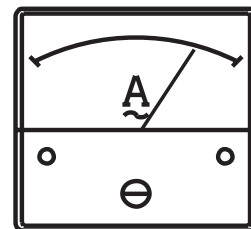

Figure 36. Ammeter (Load)
11. Observe the generator's ammeter (Figure 36) and verify it reads the anticipated amount of current with respect to the load. The ammeter will only display a current reading if a load is in use.